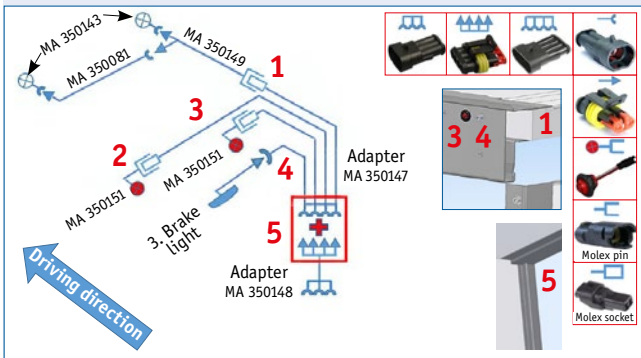

Fig. 3.4.2
To **wire the side lights** (Fig. 3.4.2) only fit together the connectors (1 / 3 / 4) and then push the plug-in connection (5) into the right-hand frame pillar.